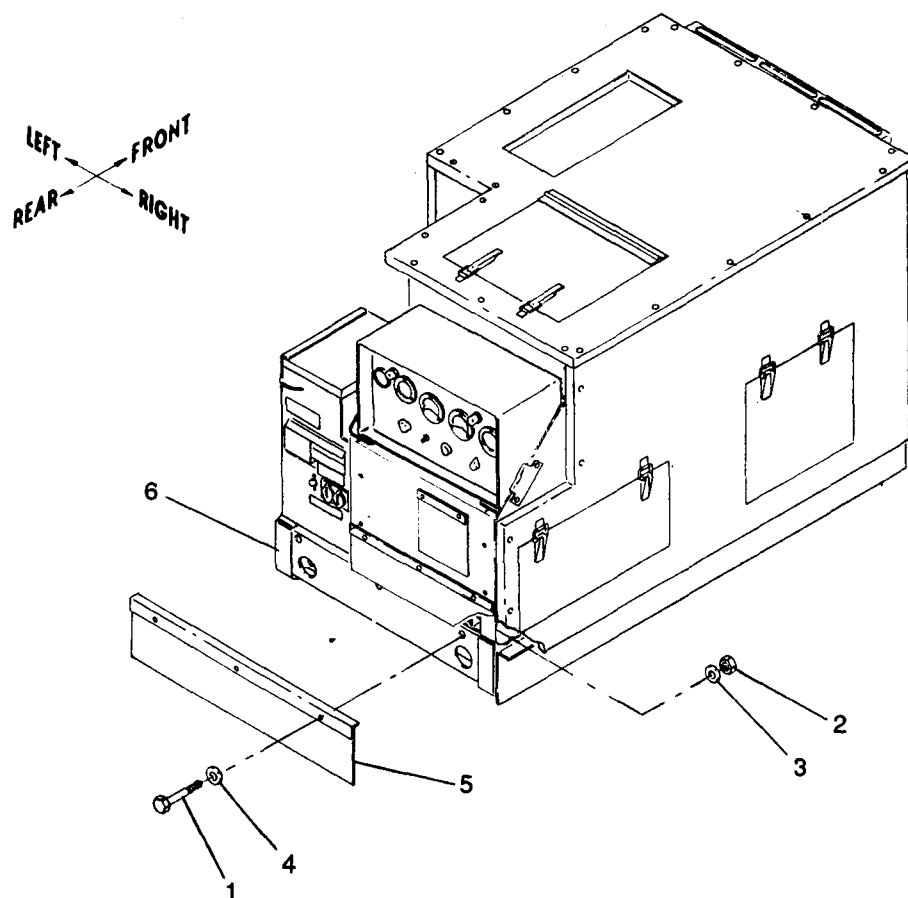

Figure 5-11. Rear Flap Assembly, Removal and Installation
a. Removal. See figure 5-11. Remove rear flap assembly from skid as follows:
(1) Remove three screws (1) and locknuts (2), and six washers (3 and 4) securing rear flap assembly (5) to skid (6).
(2) Remove rear flap assembly (5).
b. Installation. See figure 5-11. Install rear flap assembly as follows:
(1) Position rear flap assembly (5) on skid (6) and install three screws (1) and locknuts (2), and six washers (3 and 4).
(2) Torque screws (1) to 16 \pm 2 ft-lbs dry.